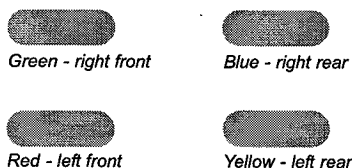

Fig.9
- Install the tires on the vehicle according to the default color-coded positions (See Fig.9).